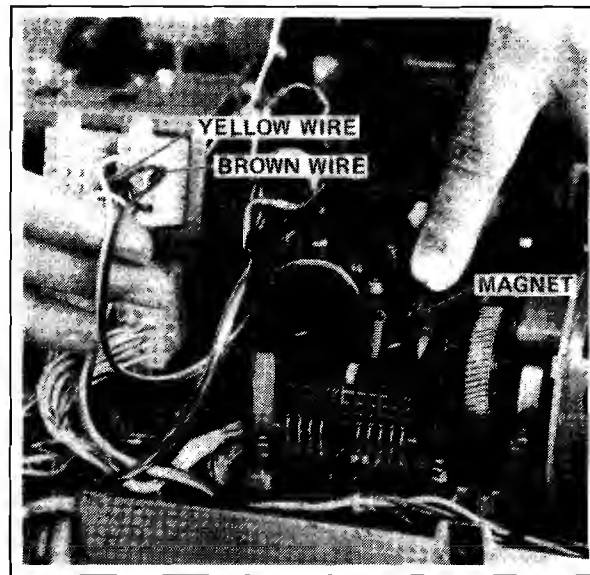

Figure B-7. Distributor Trip Magnet
- b. Disconnect brown wire shown in figure B-7 from plastic connector. Connect this brown wire to terminal L2 on mode switch. (Brown wire will have to be extended.)